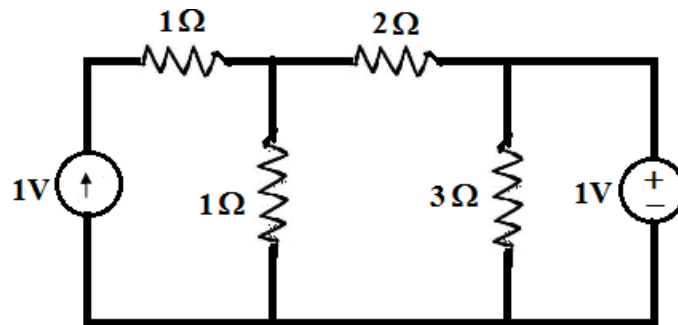

Figure 2
b) By using superposition theorem, find the current flowing through 2Ω resistor. (Figure 2) [8+7]